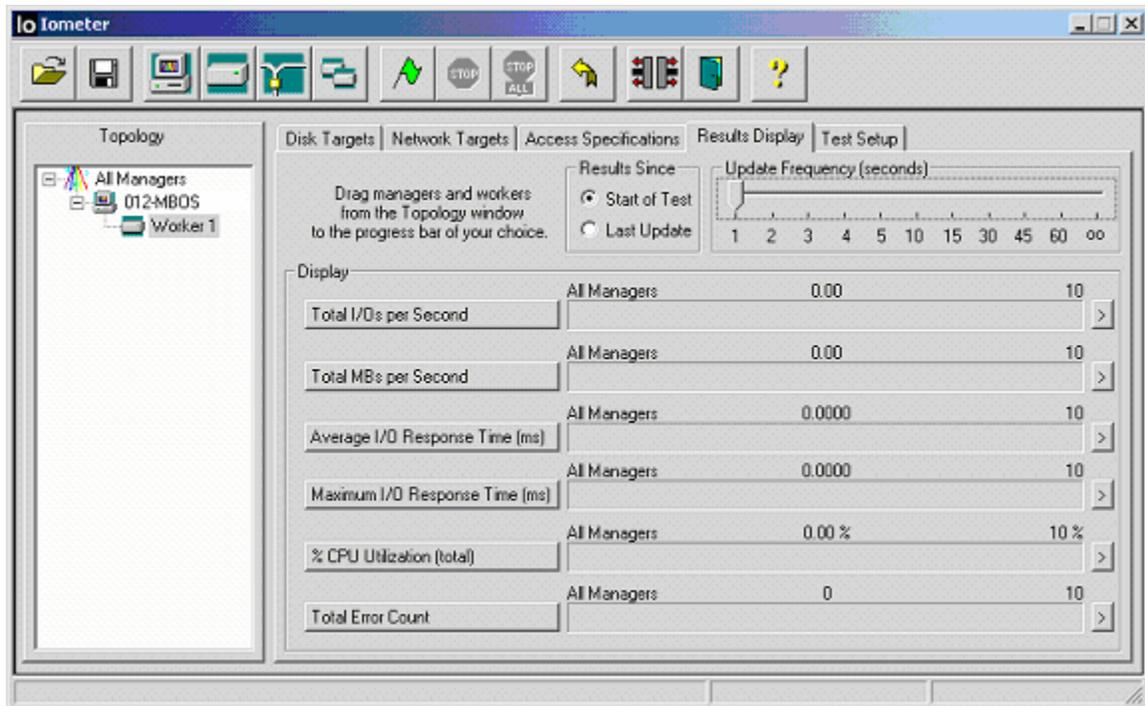

Figure 6
- Select the Results Display tab as shown in figure 6.